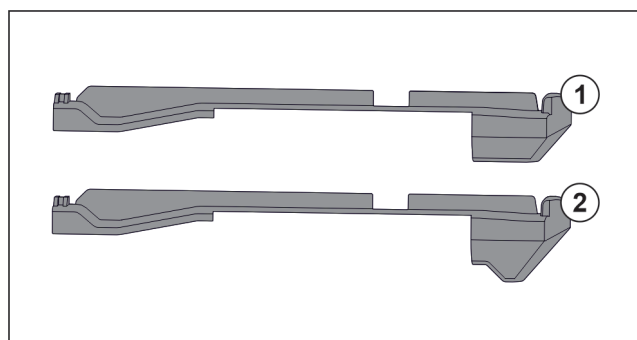

Fig. 149 Comparing attachments
There are two different attachments in the appliance. The attachment above the lowest drawer Fig. 149 (2) has a three-cornered edge. All other attachments Fig. 149 (1) have a straight edge.
- ▶ Fit attachment Fig. 149 (2) with the three-cornered edge above the lowest drawer.
- ▶ Fit attachment Fig. 149 (1) with straight edge in all other positions.